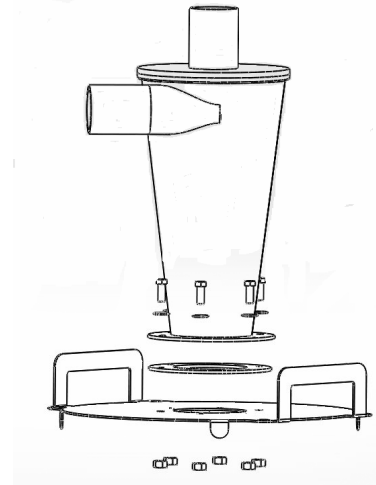

FIG. 1
- 1 Place Gasket for Cyclone (H) over the center hole in the Steel Lid (I) and line up the holes. Secure the Cyclone (F) using the 1/4"-20 X 3/4" Bolts (G1), 1/4" Flat Washers (G2), and 1/4" Flange Nuts (G3) from the Hardware Pack (G) as shown in [FIG. 1]